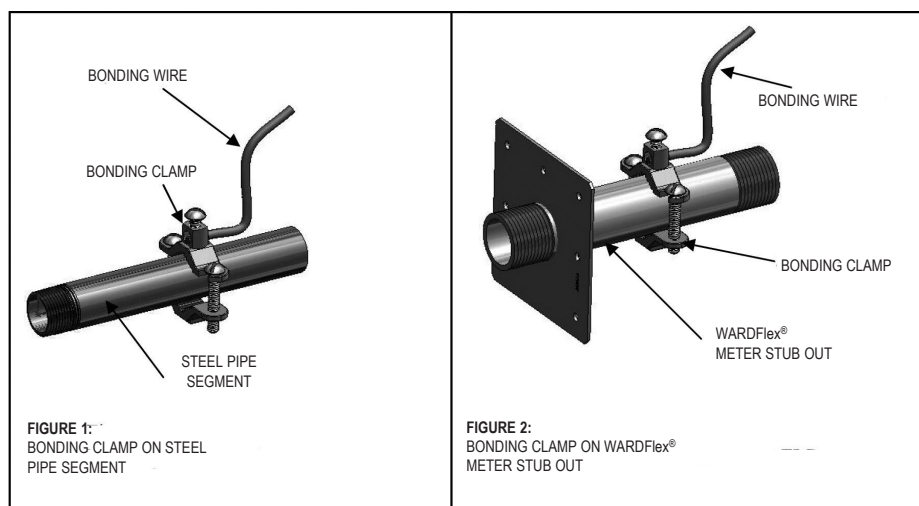

Figure 4.41
- A bonding clamp which is listed for the intended connection location and is manufactured with an appropriate and code listed material is to be attached at one point within the piping system to a segment of rigid pipe, a pipe component such as a nipple, fitting, manifold, or CSST fitting.. The bonding clamp must be attached such that metal to metal contact is achieved with the steel pipe component. Remove any paint or applied coating on the pipe surface beneath the clamp. See Figure 4.41 for guidance. The corrugated stainless steel tubing portion of the gas piping system shall not be used as the point of attachment of the bonding clamp at any location along its length.